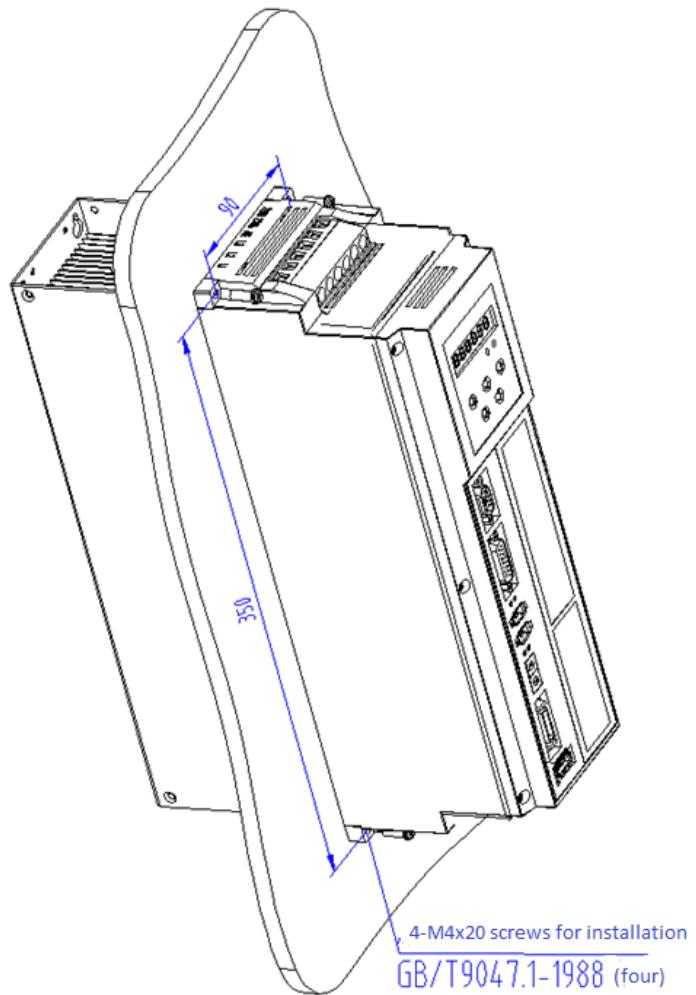

Figure 5.4.3 Wall-through mounting installation mode of HSV-180US-035, 050,
- Wall-through mounting, as shown in Figure 5.4.3